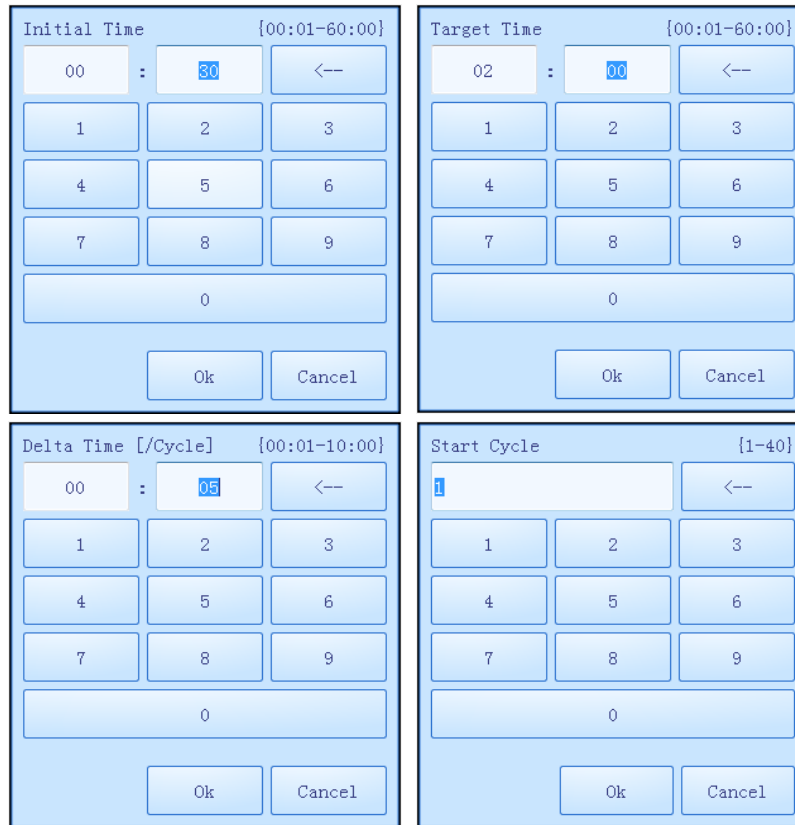

Figure E-3.6a. Step Edit Window - Long Step Parameter Setting
- ▶ User can press the input boxes of **Initial Time**, **Target Time**, **Delta Time** and **Start Cycle** to edit the corresponding parameters for the current long step, as shown in figure E-3.6a.